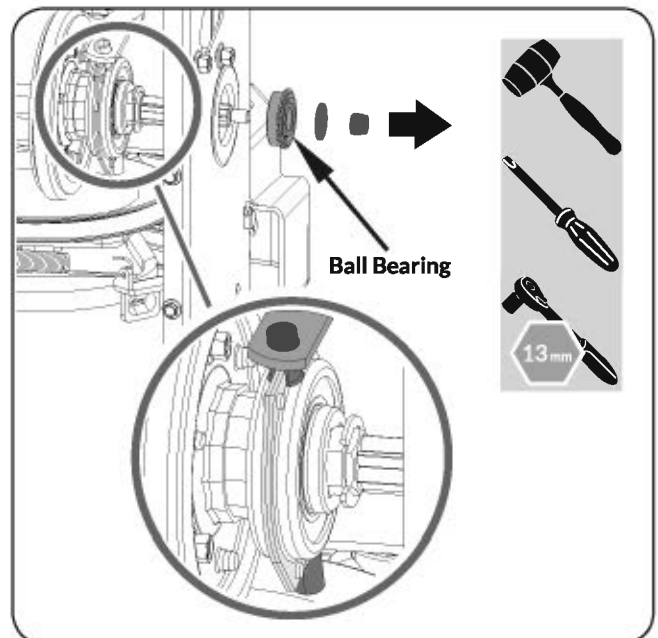

Figure 22b
- Carefully remove the hex nut which secures the hex shaft to the snow blower frame and lightly tap the shaft's end to dislodge the ball bearing from the right side of the frame. Be careful not to damage the threads on the shaft. (See **Figure 22b**)